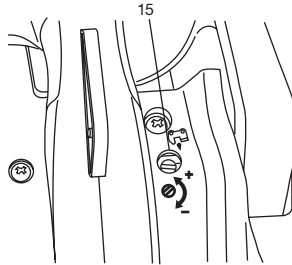

Fig. 9
Turn the adjusting screw (15) counterclockwise to increase the quantity and turn it clockwise to decrease the quantity. (Fig. 9) (standard setting turns counterclockwise 1-1/2 from slightly seated)